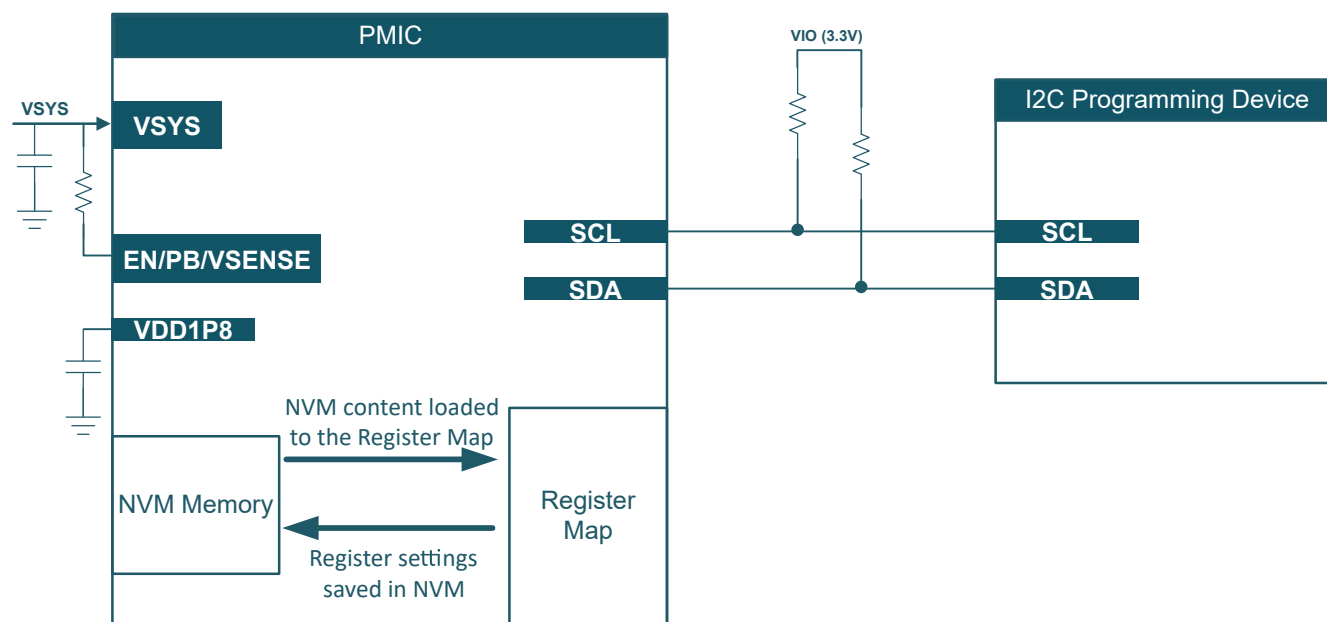

Figure 2-1. Hardware Setup for NVM Programming
The PMIC has two memory spaces, the register map space and the NVM space. Re-programming the NVM is done by first writing to the register map through the serial interface (I2C) and then saving the register settings into the NVM. Because the configuration first involves writing to the register map, which controls the regulator and digital pins, there must be no dependency or need to use the PMIC resources. For example, an external power supply must be used to supply the pull-up resistors of the I2C pins instead of using one of the PMIC power resources while reprogramming the NVM. Table 2-1 and Figure 2-1 show the minimum hardware requirements for the hardware setup between the PMIC and the programming device.
- c. **Production line:** PMIC NVM can also be re-programmed in a production line following the Figure 2-1 before soldering the device into the final PCB.